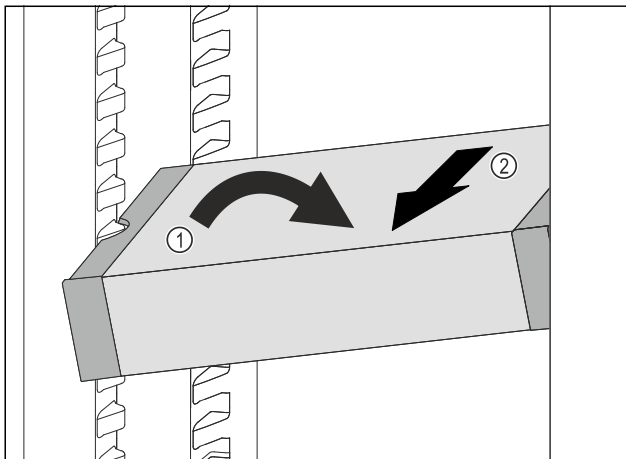

Fig. 125
- ▶ Set VarioSafe in refrigerator compartment at an angle. Fig. 125 (1)
- ▶ Take VarioSafe out to the front. Fig. 125 (2)